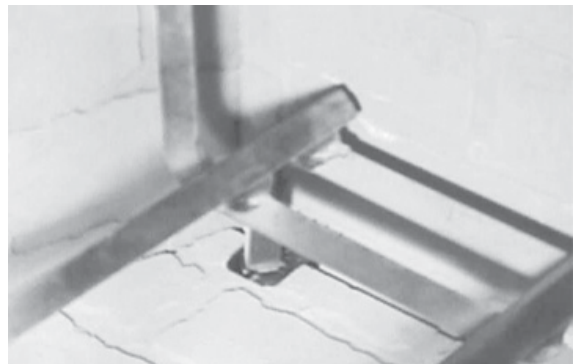

Figure 7.3 Grate Secured In Grate Bracket
- Place grate into grate brackets. See Figure 7.3.